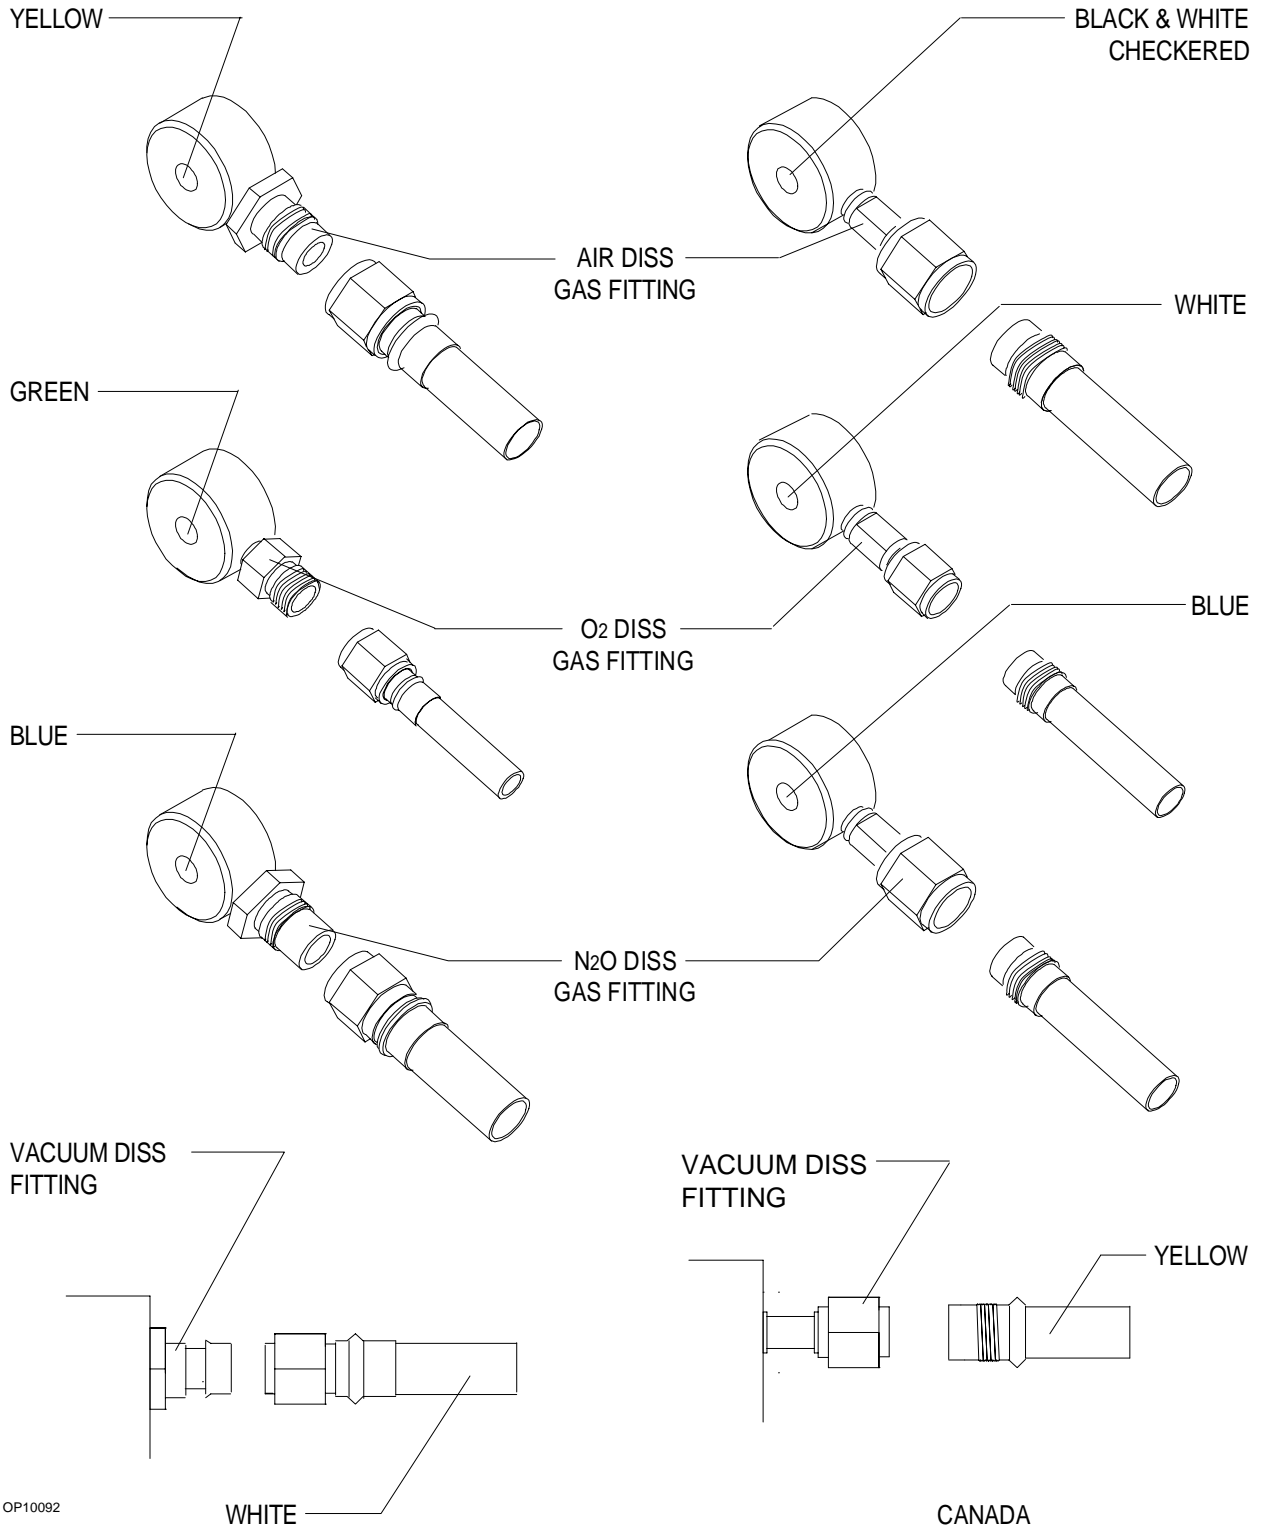

Figure 32 Supply Line DISS Gas Fittings And Supply Line Hose Connections (Air Option)
Pipeline connections for oxygen, nitrous oxide, and an optional third gas are located on the side of the flowmeter housing (Fig. 32). Standard Diameter Indexed Safety System (DISS) gas fittings are used for each gas.
2. Connect the gas fitting on the supply hose to the corresponding gas fitting on the side of the flowmeter housing (Fig. 32). Use a wrench to tighten the attached hex nut fitting.